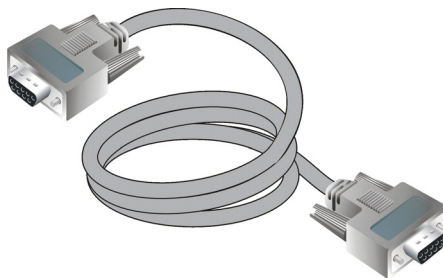

Figure 1-12 Null Modem Cable
- **Null modem cable** - An asynchronous RS-232 null modem cable (Figure 1-12) is required to configure director network addresses and acquire event log information through the maintenance port. The cable has nine conductors and DB-9 male and female connectors.